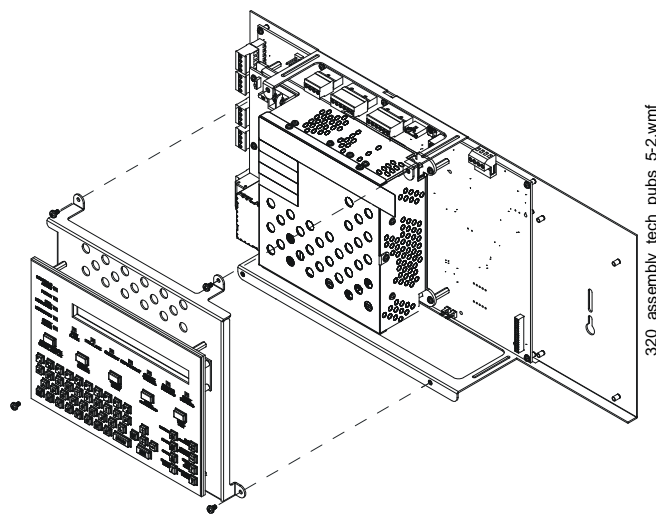

Figure 9 Removing and Reinstalling KDM-R2
1. Remove and re-install KDM-R2 as shown in Figure 9. It may be convenient to do some basic field-wiring before reinstalling KDM-R2.